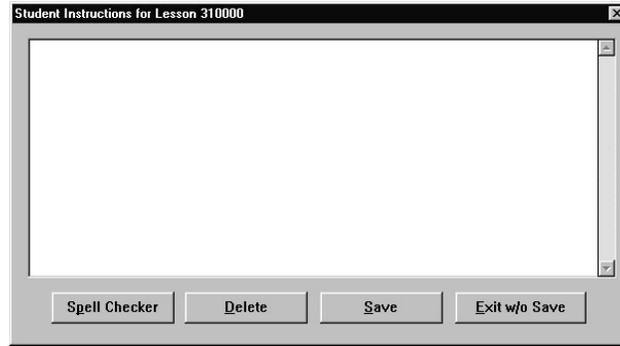

Figure 6-106. Student Instructions
2. Click on **Student Instructions**. The Student Instructions memo text box (Figure 6-106) opens.
2. Click on **Notes**. The Concept Card Notes memo text box (similar to Figure 6-106) opens.